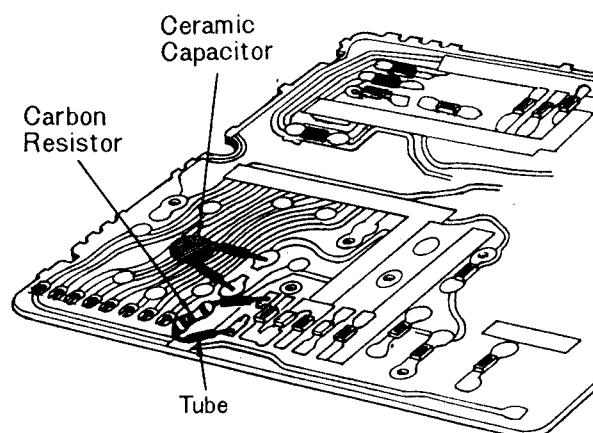

Fig. 14
3. Use tube for service parts as shown in fig. 14 and solder service parts according to following table. (please refer to Circuit Board Wiring View for the value of resistor and capacitor).